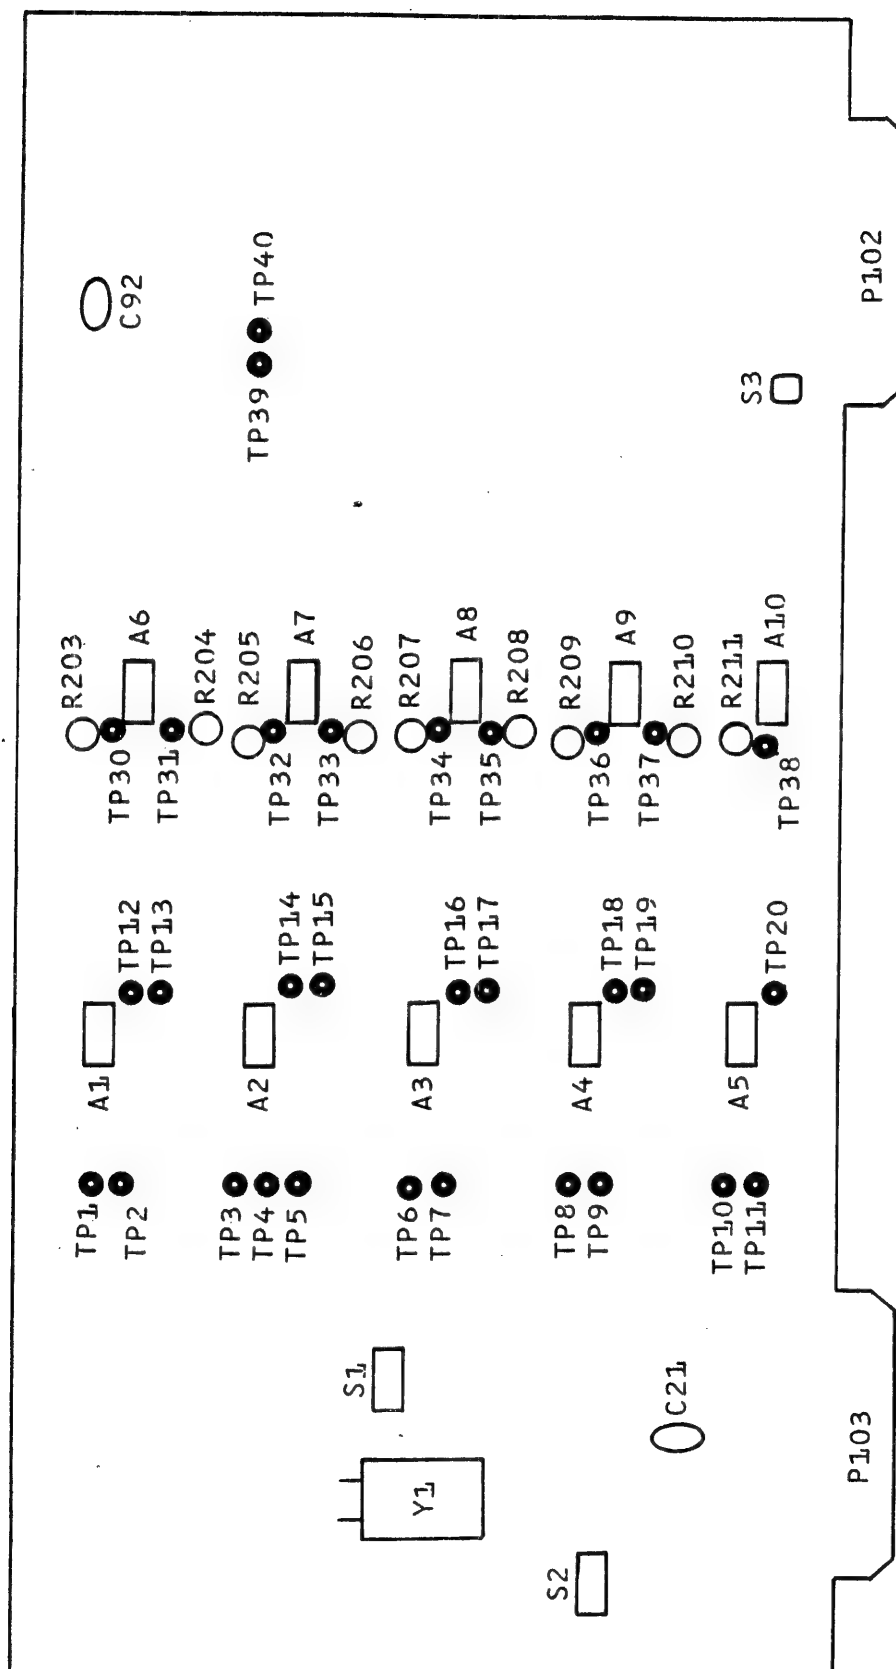

Figure 5-12. Locations of Test Points, Pots, Headers, and Switches
- a. Load known-density master skew tape on transport. Connect counter to TP10 on dual-mode data board (Figure 5-12).
- (1) Switch 1, position 6: closed.
- (2) Switch 1, position 8: closed.
- (3) Switch 2, position 1: closed.
- (4) Switch 2, position 2: closed.
- d. Referring to Figure 5-12, connect oscilloscope to TP30 and ground.
- d. Connect oscilloscope to TP10 on data board (Figure 5-12) and ground.